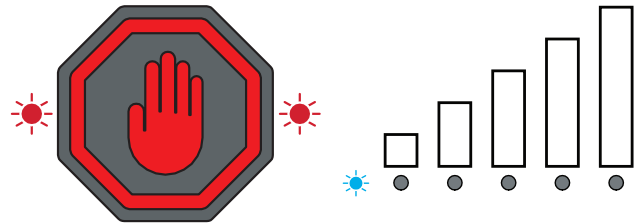

Figure 1
3. Press the Stop Button. When the blue Wireless LED starts flashing the unit is able to connect to the app. (Fig. 1)